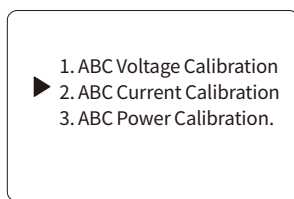

Figure 19
The key can be used to calibrate the voltage, current, power, current instantaneous calibration, instantaneous calibration, change the frame current, adjust the grey scale of the display, and calibrate or check the manufacturer's information. Figure 19, 20, and 21 below.
- ABC phase voltage calibration: as shown in Figs. 19, 20 and 21, press [Shift],
- ABC phase current calibration: as shown in Figs. 19, 20 and 21, press the [Shift],
As shown in Figs. 19, 20 and 21, press [Shift] and [Increment] to select ABC current calibration, firstly apply the rated current value (e.g. 250A) to the circuit breaker, then press [Menu], and then calibrate the rated current within 5 seconds.
- Power calibration: As shown in Figs. 19, 20 and 21, press [Shift] and [Incremental] keys to select BC power calibration, input rated current (e.g. 250 A), input rated voltage 220V, press the key to select the power calibration.
-Change the shell frame current: As shown in Figs. 19, 20 and 21, press [Shift] and [Increment] to select change the shell frame current, and then press [Confirm] to enter the interface of changing shell frame current.
-Display grey scale adjustment:: As shown in Figs. 19, 20 and 21, press [Shift], [Incremental] key to select display grey adjustment, and press [Menu] key to enter the grey adjustment interface, according to the actual display, press [Shift] , [Incremental] to adjust the grey level, and then press [Return] key to return to the upper interface.